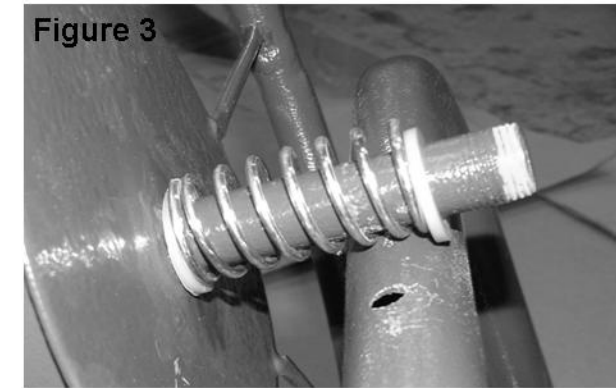

Figure 3
3. Turn Spool (B) around and slide a plastic spacer washer (L), spring (I) and another plastic spacer washer (L) over the pipe. See Figure 3.